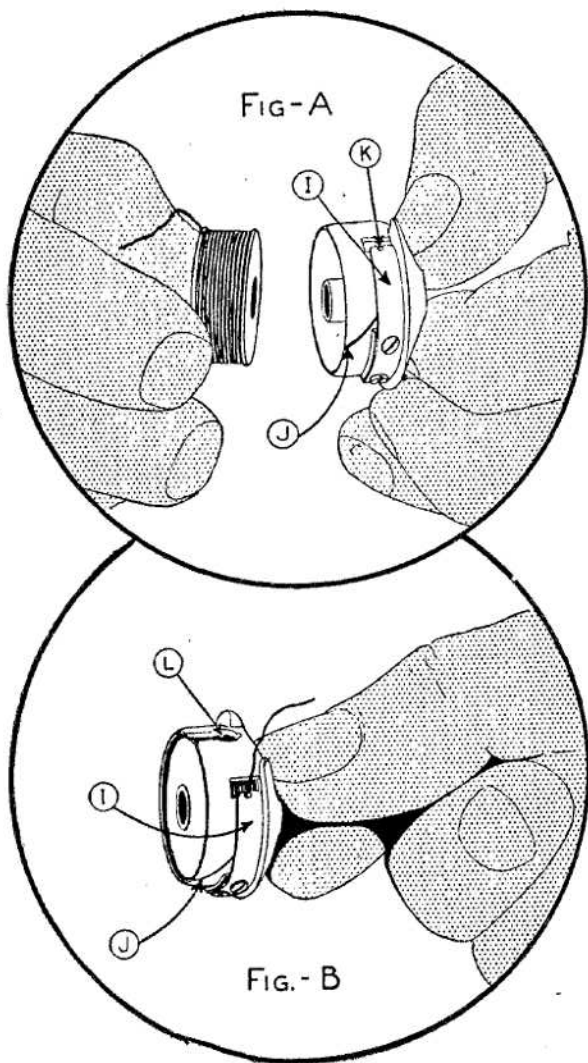

Fig. 4
Hold the bobbin case between the thumb and fingers of the left hand (See A, Fig. 4) with the tension spring (I) up. With the right hand place
After threading the bobbin case as instructed in Paragraph 8, being sure that the bobbin is pushed in the case as far as it will go, raise the needle bar to its highest position. Grasp the front of the bobbin case with the thumb and forefinger of the right hand (See B, Fig. 4),